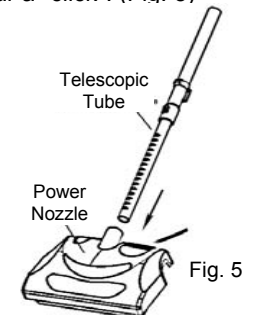

Fig. 5
- Push the telescopic tube down until you hear a "click". (Fig. 5)